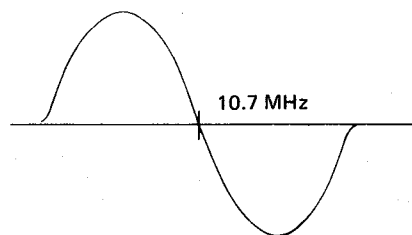

Figure 5
- 7) Turn TA01 core to adjust S-curve. Adjust waveforms to be symmetrical vertically and linearly controlled as shown in Fig. 5.